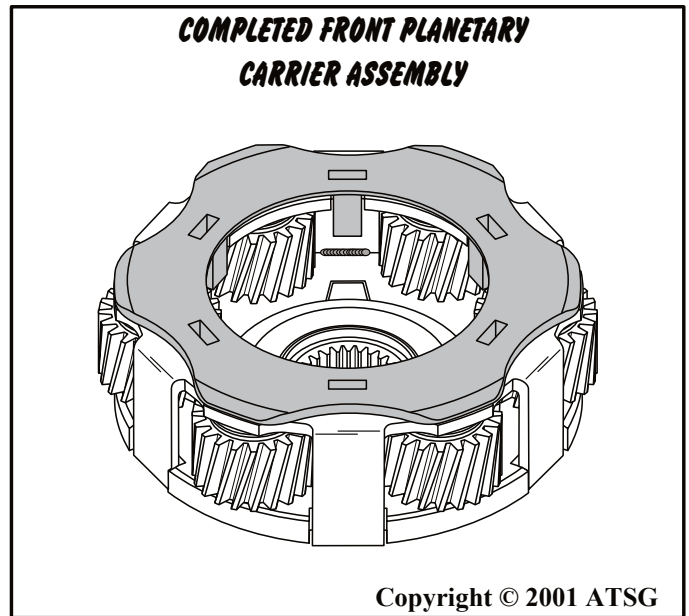

Figure 101
6. Set completed front planetary carrier assembly aside for the final assembly process. Refer to Figure 101.